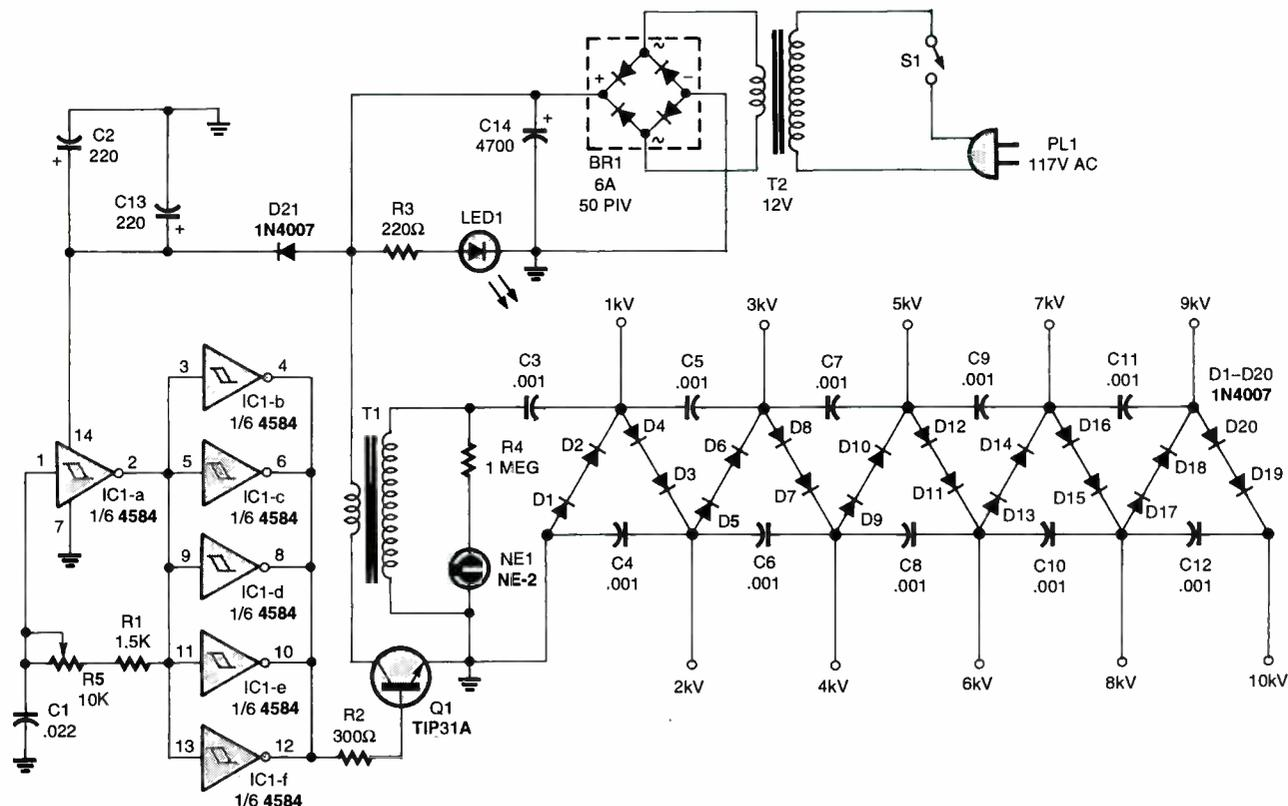

Fig. 9. Generate up to 10 kilovolts with this advanced design.
**High-Voltage DC Generator.** A schematic diagram of a high-voltage DC generator is shown in Fig. 9. The circuit is built around a single hex inverting Schmitt trigger (IC1), a couple of transformers (T1 and T2), a transistor (Q1), 21 diodes, and several support components.